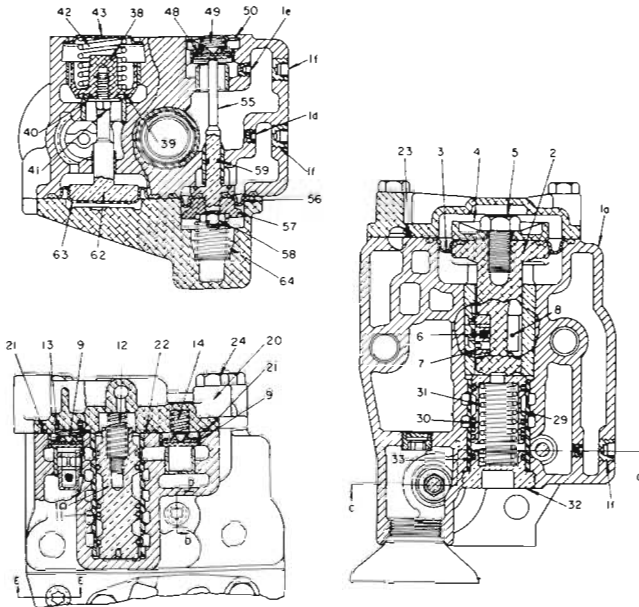

Figure 8
5.3 The emergency portion has a total of eight springs which are identified in Fig. 8 and Table 2 by reference numbers as follows: